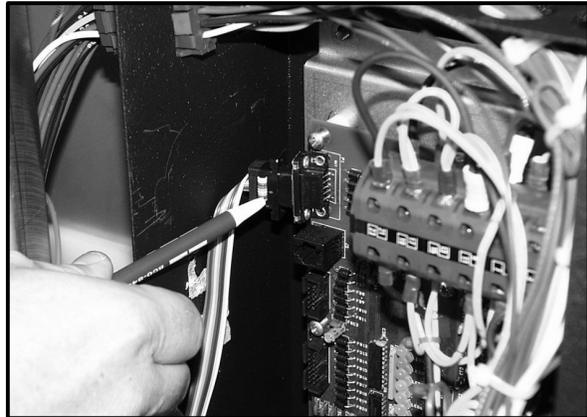

Figure 26
2. Remove (2) screws and slide the control panel forward.
4. Attach a standard serial cable to the laptop computer's serial port, and to the 9 pin serial port located on the PCB in the control area. See Figure 26.